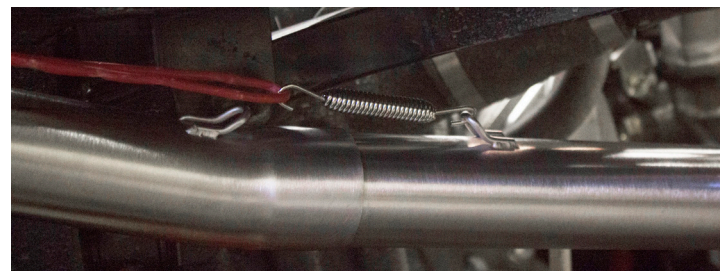

Figure 1
4. Use a long piece of electrical wire to install the supplied spring at the **head pipe-to-inlet joint**. (See Figure 1)